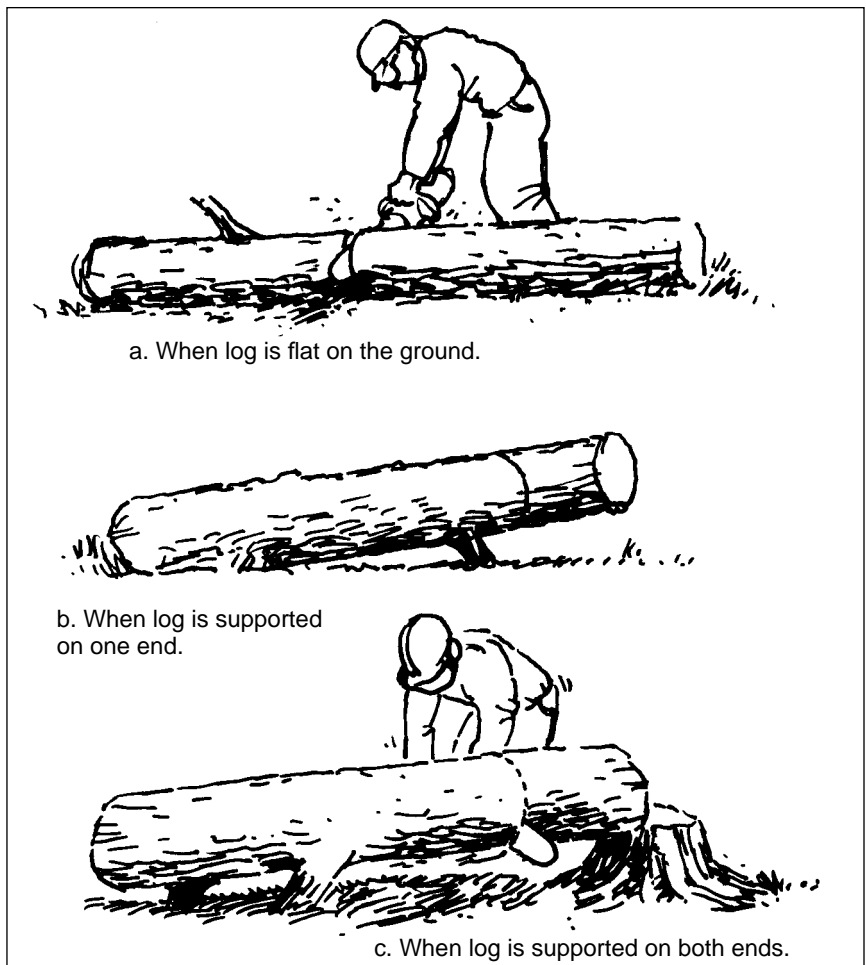

Figure 7. Bucking a tree.
- Bucking procedures differ depending on how the log is supported (Figure 7). When the log is flat on the ground, cut it from the top; then roll it